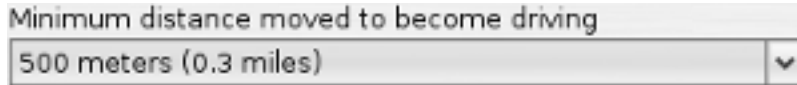

Figure 5.40. Minimum distance moved
2. Under the "GPS Device Settings" section change the "Minimum distance moved to become driving" setting to the desired value see Figure 5.40, "Minimum distance moved".